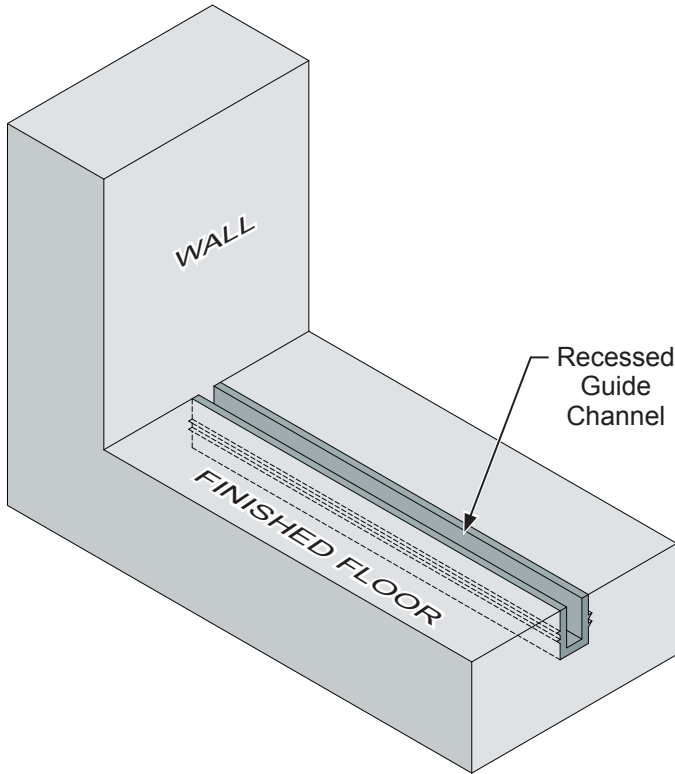

FIG. 4
1. The Guide Channel is set into the floor and is positioned directly under the center of the Top Track. (FIG. 4)